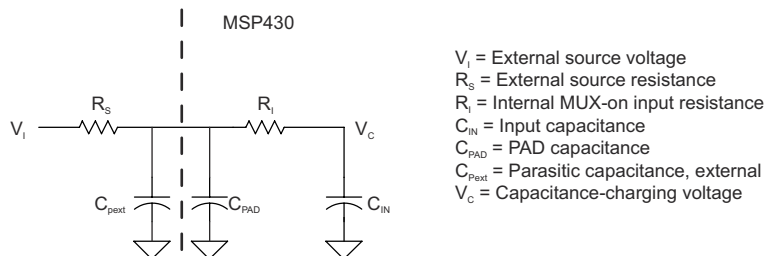

Figure 8-18. eCOMP Input Circuit
(1) See Figure 8-18 for eCOMP  $C_{IN}$  model.